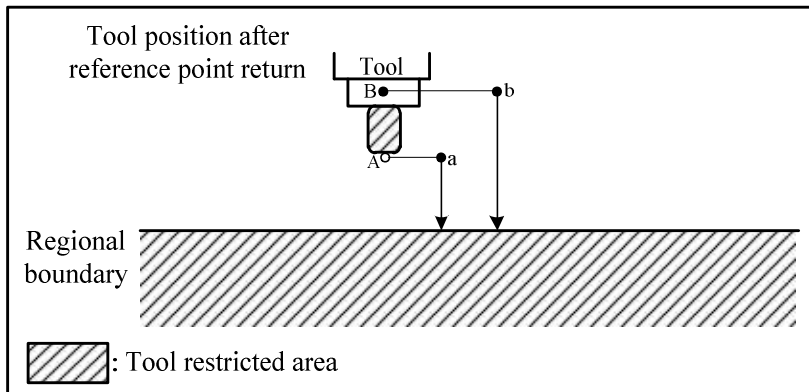

Fig. 2-6-4 Restricted area setting
- 3) Checkpoint of restricted area: Confirm the checkpoint location (tip or top of the tool case) before programming the restricted area. As shown in Fig. 2-6-4, if the checkpoint is A (tool tip), the distance “A” should be set to the data in the storage function inspection; if checkpoint is B (tool case), distance “B” should be set as the data in the storage function inspection. When the checkpoint is A (tip) and the length of the tool varies with the tool, the restricted area should be set according to the longest tool, so as to ensure safe operation.